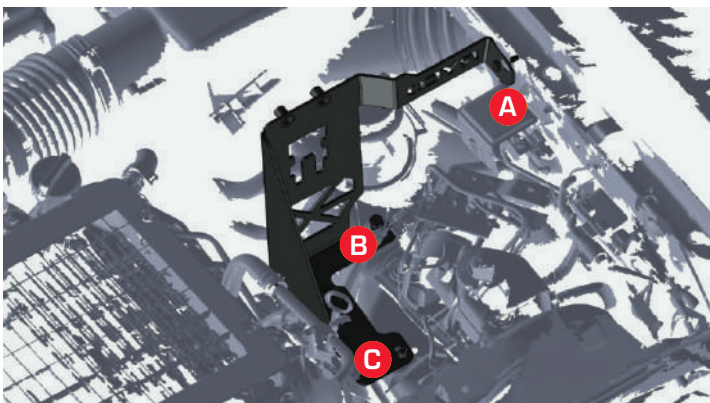

FIGURE 1
- 2 Position the bracket in the engine bay as per Figure 1, aligning the hole at Point "B" on the bracket under the power steering reservoir mount at point "B" and loosely refit the factory bolt.